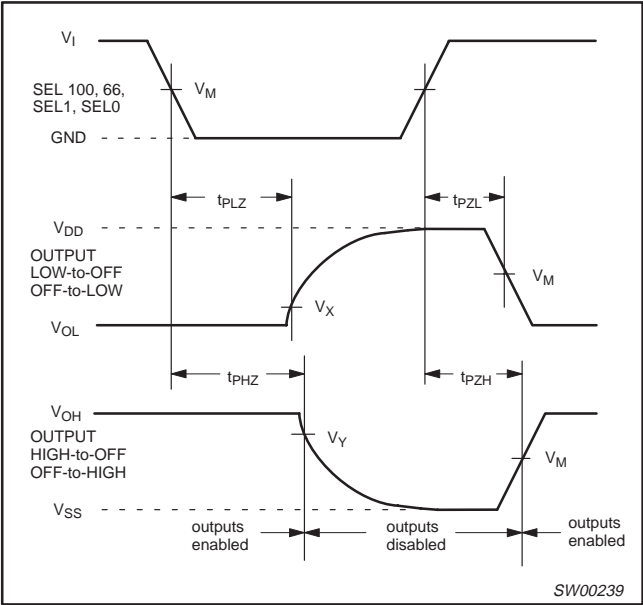

Figure 4. 3-State enable and disable times.
5. T_{HKH} is measured @ 2.0V as shown in Figure 4.
6. T_{HKL} is measured @ 0.4V as shown in Figure 4.